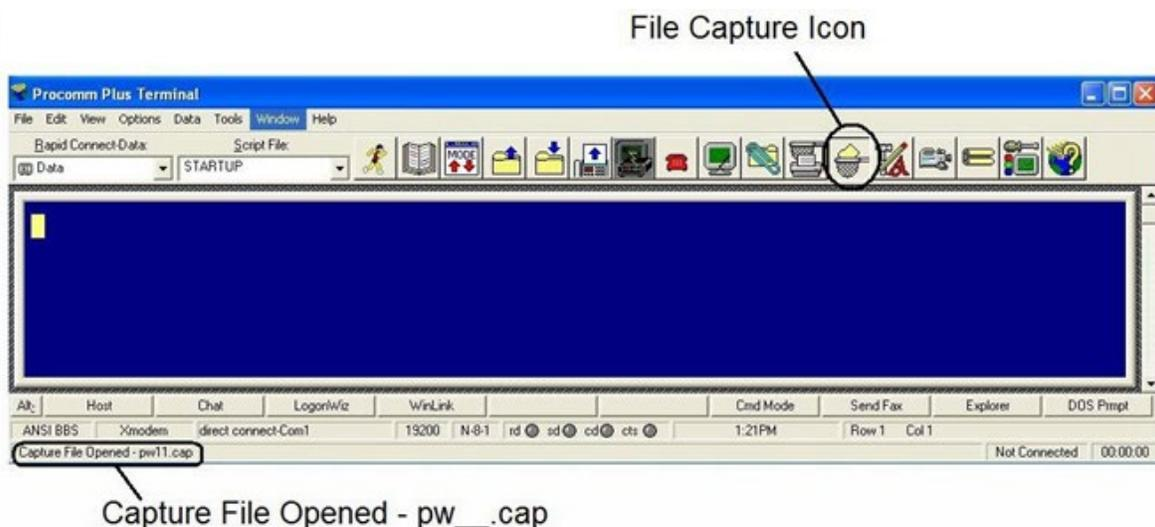

Figure 3. Procomm Plus Terminal
- a. Before logging on to the AIM module, click on the File Capture icon (see Figure 3) at the top of the Procomm Plus Terminal window. A notification for a Capture File Opened - pw\_\_cap file will be posted at the bottom left side of the window (example: pw11.cap includes the sequence number 11).